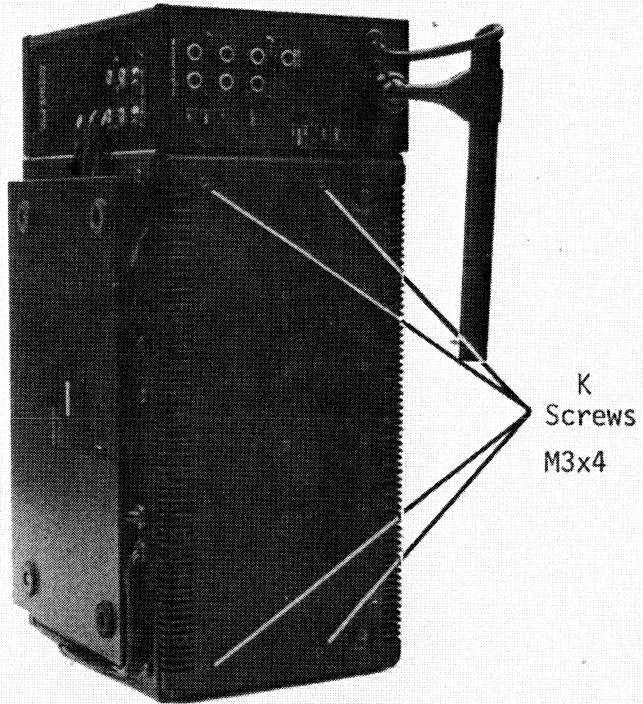

Figure 11.
- (1) Remove four screws indicated by "K" from Rear Cabinet as shown in Figure 11.